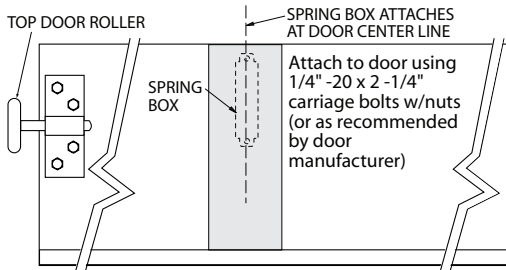

Figure 6
- 2) Position the spring box on the door as shown in **Fig. 6**, with mounting holes on the door centerline and **even with or above top door roller**.
- 4) Use two (2) 3/8" -16 X 7/8" bolts and nuts to attach the spring box to the drawbar arm.